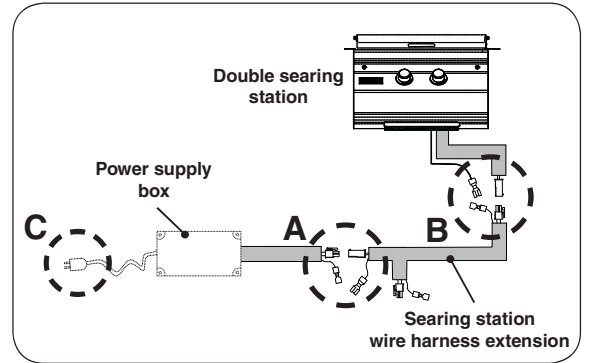

Fig. 17-1 Connect searing station to power supply
3. Connect the power supply box connectors to the searing station wire harness extension, as shown in Fig. 17-1, **A** (molex and ground wire connections).
4. Connect the searing station wire harness extension to the searing station, as shown in Fig. 17-1, **B** (molex and ground wire connections).
5. Connect the cord coming from the power supply box to a **120VAC (15 AMP minimum) GFCI GROUNDED 3-wire receptacle**. See Fig. 17-1, **C**, and 17-2.